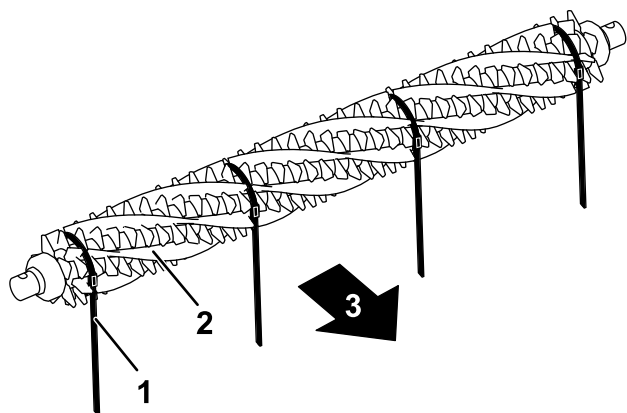

Figure 18
3. From 1 side of the groomer reel, slide a brush into each groove around the full length of the groomer reel (Figure 18).
Important: You must wrap the straps around the groomer blade and brush assembly in the primary rotating direction. Figure 18 shows the straps installed for forward rotation.